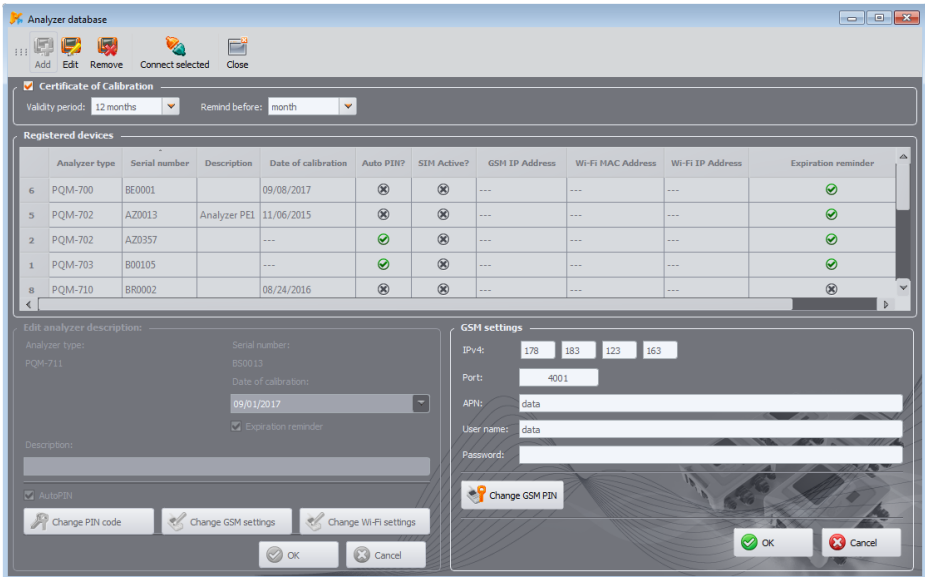

Fig. 41. Entering GSM settings in the analyzer database.
- Message "*The analyzer is not connected*" will be displayed with a panel for GSM settings in offline mode, in order to enter the IP number of the analyzer (Fig. 41).